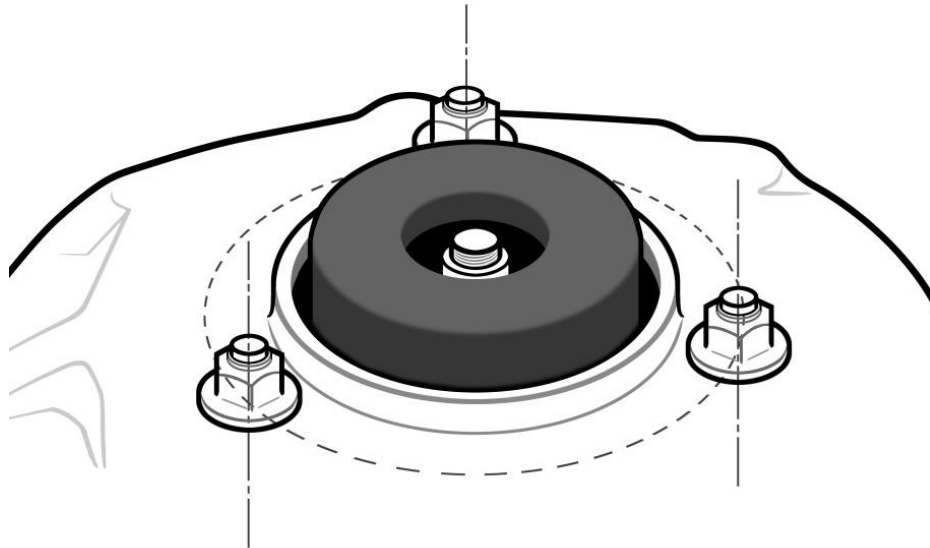

Figure 15
- E. MacPherson strut upper mount pivot must remain within the centerline dimension of the OEM unaltered factory bolt pattern on the chassis. Refer to Figures 15 and 16.